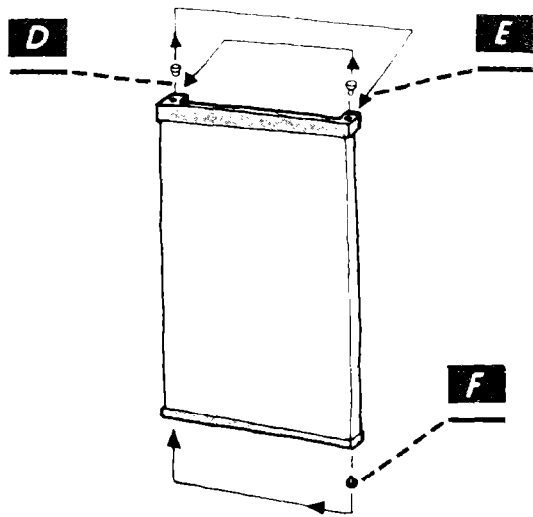

Fig. 4
- Remove plastic cover "D", plastic bush "E" inverting their position (Fig. 4).